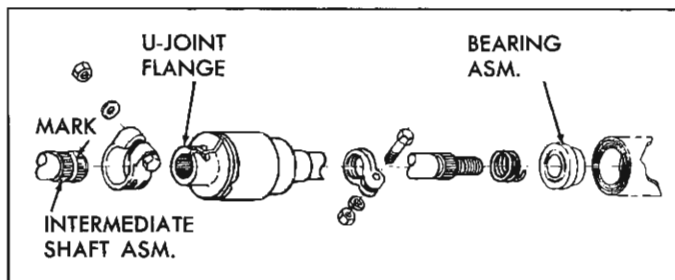

Fig. 41—Coupling and Stop Clamp Assembly
- a. Loosen lower spring stop clamp (fig. 41).